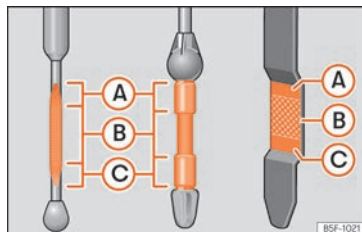

Fig. 213 Engine oil dipstick.
- Then pull it out once more and check the oil level » Fig. 213. Top up with engine oil if necessary.
- When the oil level reaches at least zone » **Fig. 213 (B)**, unscrew the engine oil filler cap carefully » **ⓘ**.
If the oil level is above area » **Fig. 213 (A)**, do not start the engine. This could result in damage to the engine and catalytic converter. Contact a specialised workshop.
The oil level must never be above zone » **Fig. 213 (A)**. Otherwise oil can be drawn in through the crankcase breather and leak into the atmosphere via the exhaust system.